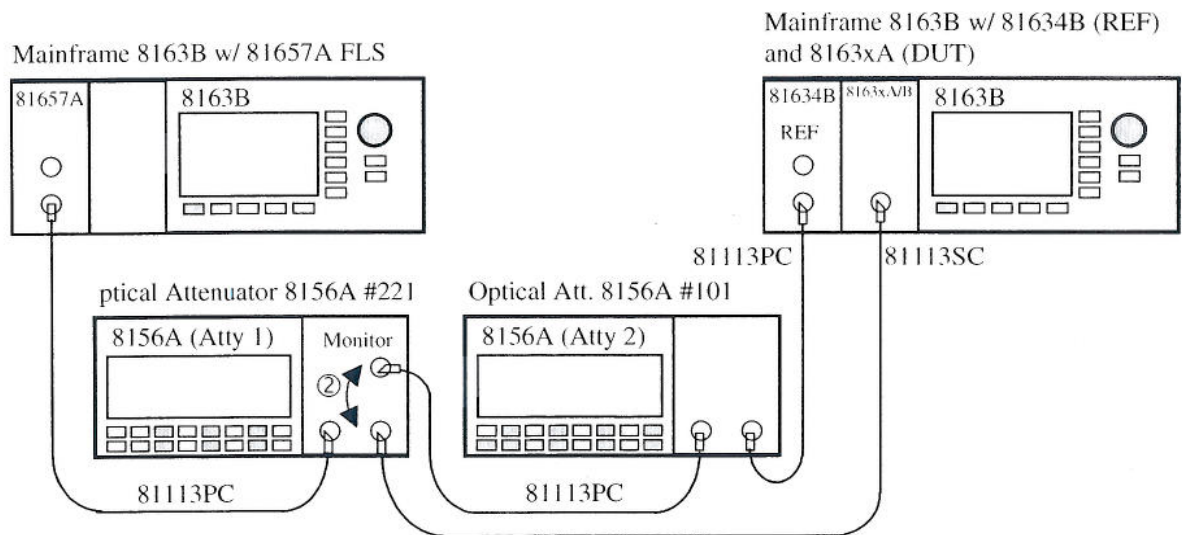

Figure 4 Measurement Setup for Power Linearity
- 3 Setup the equipment as shown in Figure 4. Disable both attenuators and enable the laser source, where the source wavelength is chosen to 1550 nm. If you are using the 81657A, move to the wavelength parameter, [λ], press *Enter*, select the longer wavelength source (1550 nm nominally), and press *Enter*.